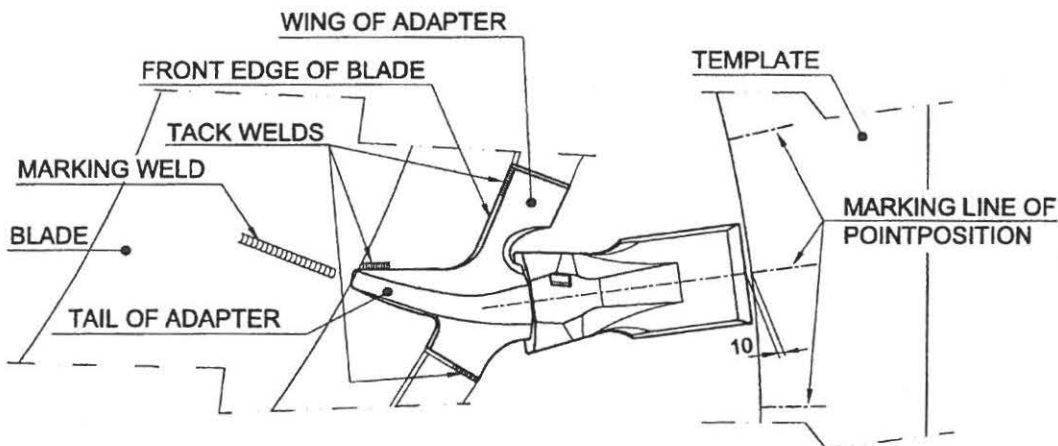

Figure 9.2
See figure 9.2
5. Fix the adapter by means of firm tack welds as indicated on figure 9.2.